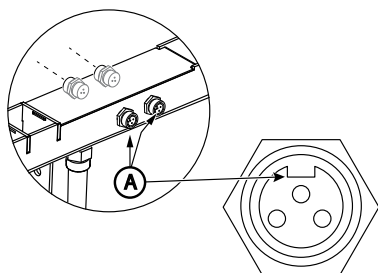

Figure 13. 3-Pin DIN Female Connector
1. Locate the 4 key-lock female 3-pin DIN connectors on the T-bar as shown in Figure 13.
2. Next, locate the slot or key (A) on each female connector as shown in Figure 13.